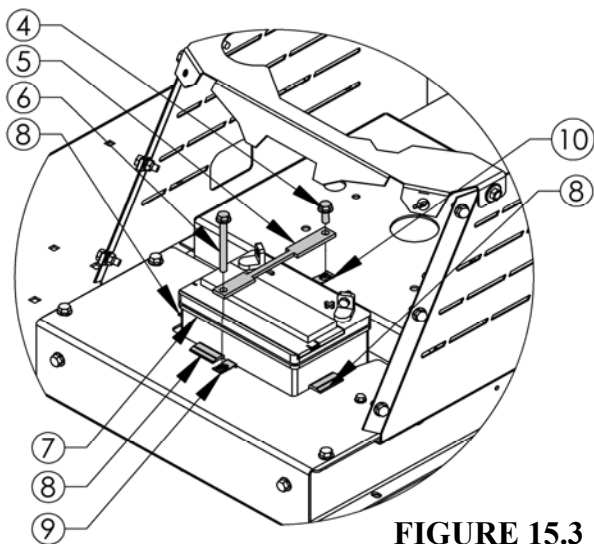

FIGURE 15.3
- Place U1 Battery into opening. Ensure the three rubber edge guards ⑧ are in place before inserting Battery. **Figure 15.3**
- Lay Battery strap ⑤ over Battery. Insert one 5/16-18 x 1” Bolt ④ thru Battery strap hole near engine and hand thread into the Tinnerman Clip ⑩. Insert 5/8-16 x 3” Bolt ⑥ thru hole in opposite end of strap and thread into Tinnerman Clip ⑨ shown in **Figure 15.3**. Tighten both bolts with 1/2” wrench being careful not to over tighten and deform the Battery strap.